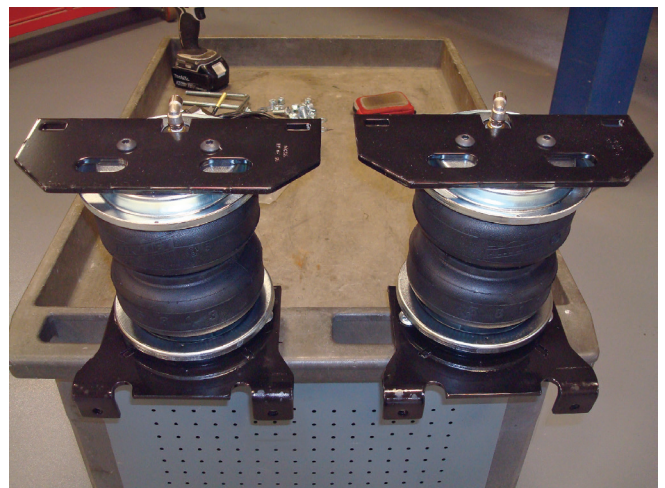

Fig. 12
6. Figure 12 shows both assemblies ready for installation.